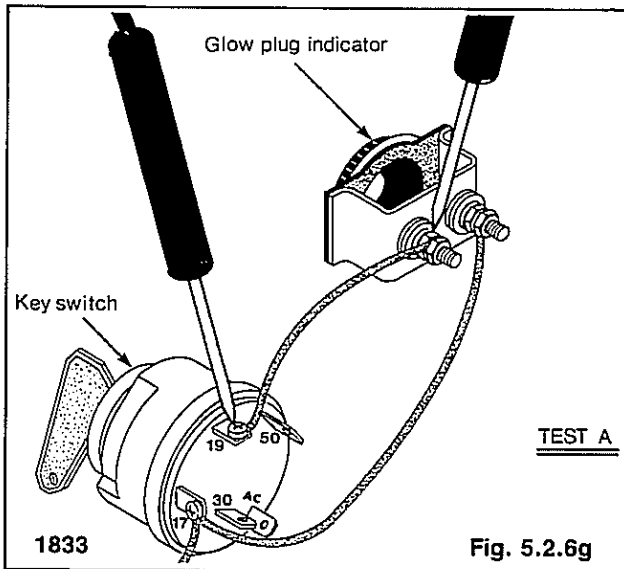

Fig. 5.2.6g
- (A) Connect one ohmmeter lead to the terminal marked 19 on the key switch (Fig. 5.2.6g). Connect the other ohmmeter lead to terminal on the glow plug indicator.